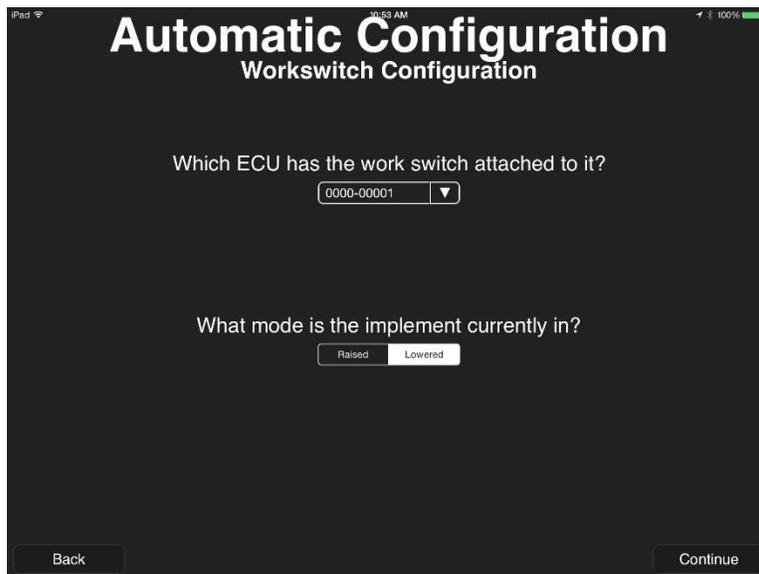

Figure 25: Automatic Configuration – Work Switch Configuration (standard set-up)
7. Tap **Done** to continue to the Automatic Configuration – Installation Summary screen. If the number of ECUs found matches the number you input on the previous screen, you will auto-advance to the Automatic Configuration – Setup screen, shown in Figure 25.